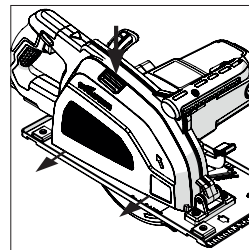

Fig. 3
- Remove the chip collector, **(12)**, by depressing the release button, **(13)** (**Fig.3**), exposing the blade bolt, (**Fig.4**).